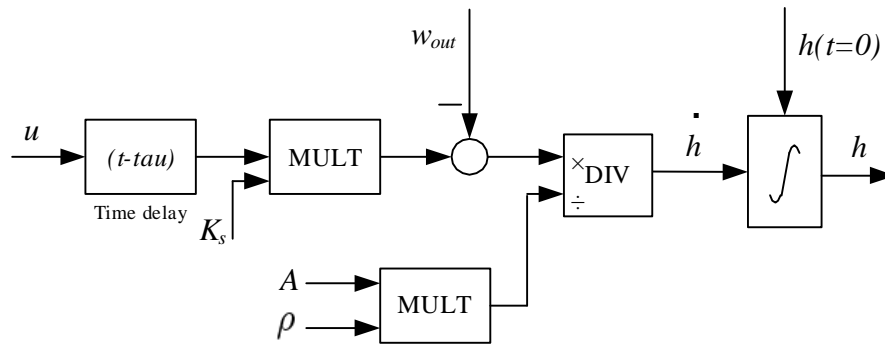

Figure 12.8:
3. Figure 12.8 shows the mathematical block diagram (it can be drawn in many other ways).